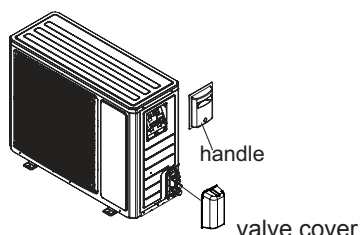

Fig.19
1. Remove the screw on the right handle of outdoor unit and then remove the handle.(As show in Fig.19)